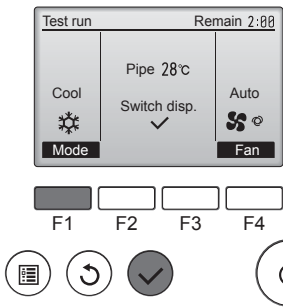

Fig. 6-5
- ① Press the **[F1]** button to go through the operation modes in the order of "Cool" and "Heat". (Fig. 6-5)